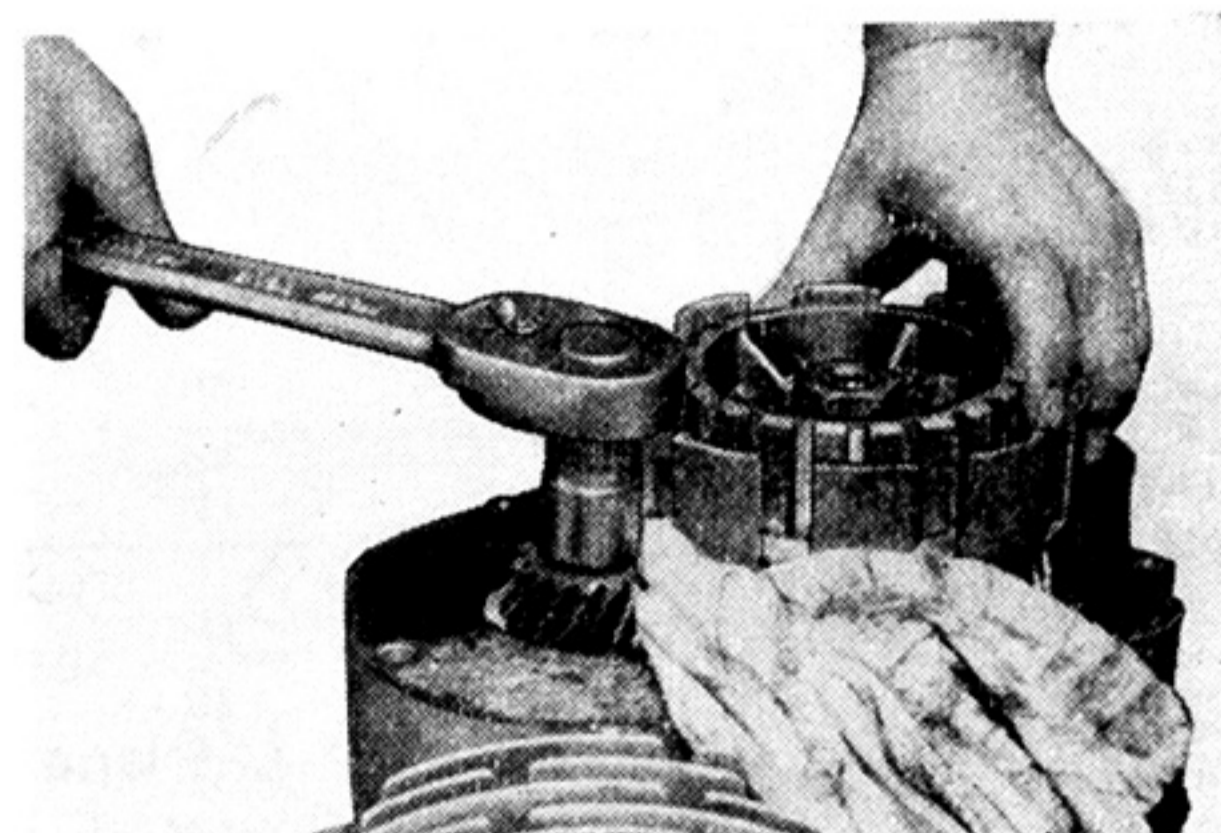

Fig. 3-9-1
- a. Feed a rolled-up rag between the teeth of the primary drive gear and primary driven gear to lock them. (Fig. 3-9-1)